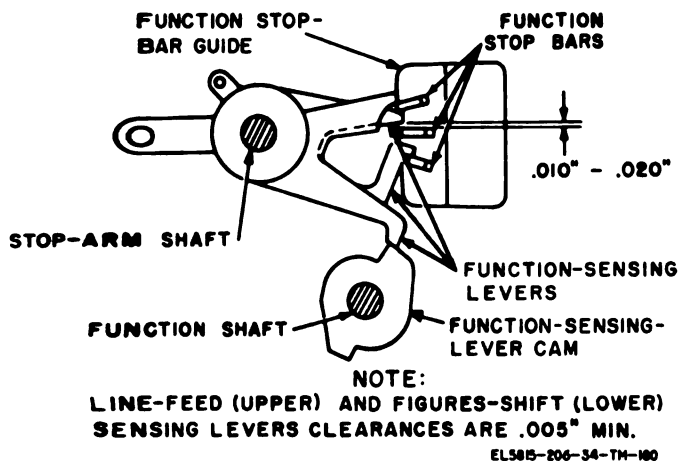

Figure 3-108. Function stop-bar guide adjustment.
**3-141. Function Stop-Bar Guide Adjustment (fig. 3-108)**